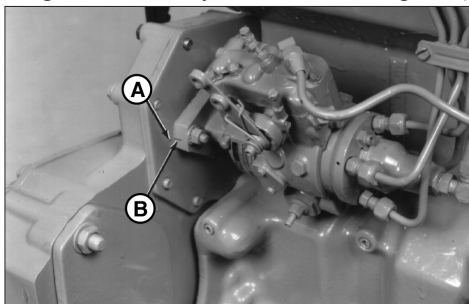

Figure 22 Reproduced by permission of Deere & Company, c.2004. Deere & Company, All rights reserved.
9. Align timing mark on the pump flange (Figure 22-B) with timing mark on the cylinder block front plate (A).